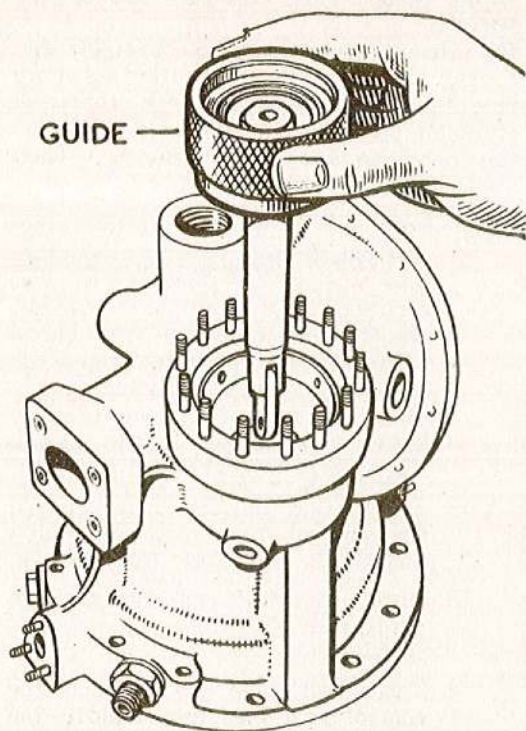

Fig. 22. Inserting the servo piston into the bore, using protective guide
4. Carefully lower the piston-rod into its bore in the pump housing, ensuring that the link is straight to avoid damage to the felt ring in the top of the piston-rod bore, and use a protective guide (fig. 22) to prevent damage to the rubber seal of the servo piston during its insertion into the servo piston liner in the pump housing. Push the piston to the bottom of the liner